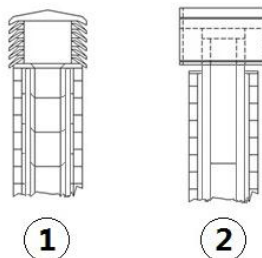

Fig. 4 - Anti-wind chimney pots
- We recommend using an anti-wind chimney pot, see **Fig. 4 page 8**.
- External chimney flue entirely made up of insulated stainless steel pipes, i.e. with double wall of minimum Ø100/120 mm: all must be firmly attached to the wall. For chimney against wind effects please (see Fig. 4 page 8).